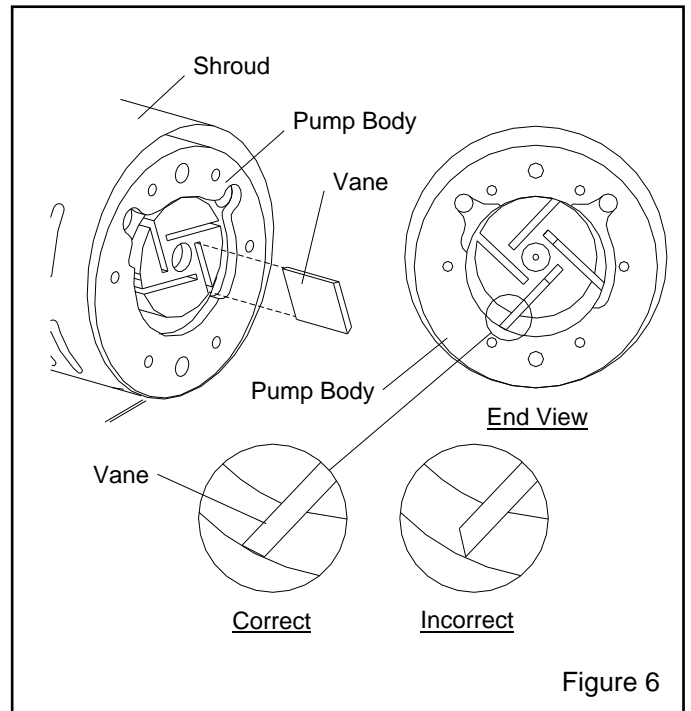

Figure 6
5.4.5 Before removing the vanes, note how the beveled edges on the vanes conform to the contour of the body's bore, Ref. Figure 6. They must be reinstated in the same position.
5.4.7 The vanes could be worn or require further cleaning. When reinstalling or replacing the vanes, face the bevels in the proper direction as shown in Figure 6.